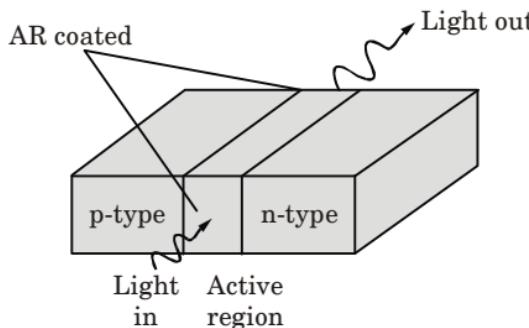

Fig. 9. Block diagram of a semiconductor optical amplifier.
1. Fig. 9 shows the block diagram of a semiconductor optical amplifier. The SOA is essentially a *p-n* junction. The depletion layer is formed at the junction acts as the active region.